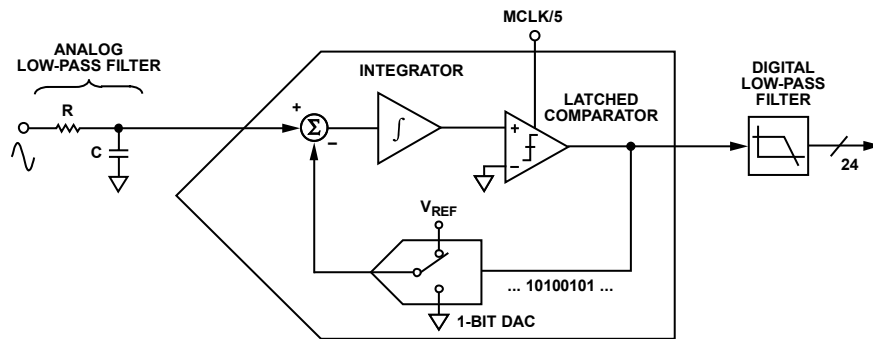
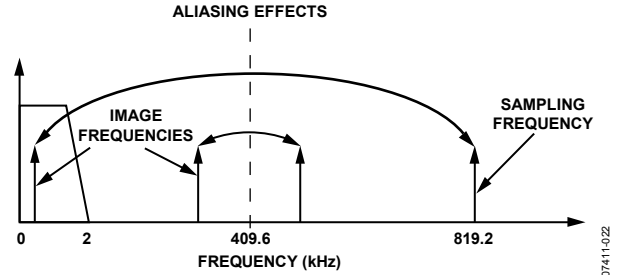

Figure 22. First-Order Σ - Δ ADC
Figure 23. ADC and Signal Processing in Current Channel Outline Dimensions
For simplicity, the block diagram in Figure 22 shows a first-order Σ - Δ ADC. The converter is made up of the Σ - Δ modulator and the digital low-pass filter.
Figure 22 also shows an analog low-pass filter (RC) on the input to the modulator. This filter is present to prevent aliasing, an artifact of all sampled systems. Aliasing means that frequency components in the input signal to the ADC, which are higher than half the sampling rate of the ADC, appear in the sampled signal at a frequency below half the sampling rate. Figure 23 illustrates the effect. Frequency components (the black arrows) above half the sampling frequency (also known as the Nyquist frequency, that is, 409.6 kHz) are imaged or folded back down below 409.6 kHz. This happens with all ADCs regardless of the architecture. In Figure 23, only frequencies near the sampling frequency (819.2 kHz) move into the band of interest for metering (40 Hz to 2 kHz). This allows the use of a very simple LPF (low-pass filter) to attenuate high frequency (near 819.2 kHz) noise and prevents distortion in the band of interest.
For conventional current sensors, a simple RC filter (single-pole LPF) with a corner frequency of 10 kHz produces an attenuation of approximately 40 dB at 819.2 kHz (see Figure 23). The 20 dB per decade attenuation is usually sufficient to eliminate the effects of aliasing for conventional current sensors. However, for a di/dt sensor such as a Rogowski coil, the sensor has a 20 dB per decade gain. This neutralizes the -20 dB per decade attenuation produced by one simple LPF. Therefore, when using a di/dt sensor, care should be taken to offset the 20 dB per decade gain. One simple approach is to cascade two RC filters to produce the -40 dB per decade attenuation needed.